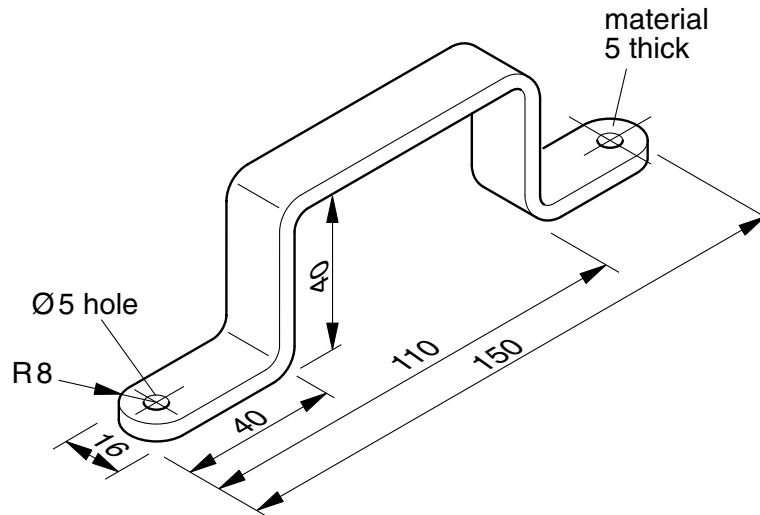

Fig. 1
- 1 Fig. 1 shows the design of a handle to be used on a small toolbox.